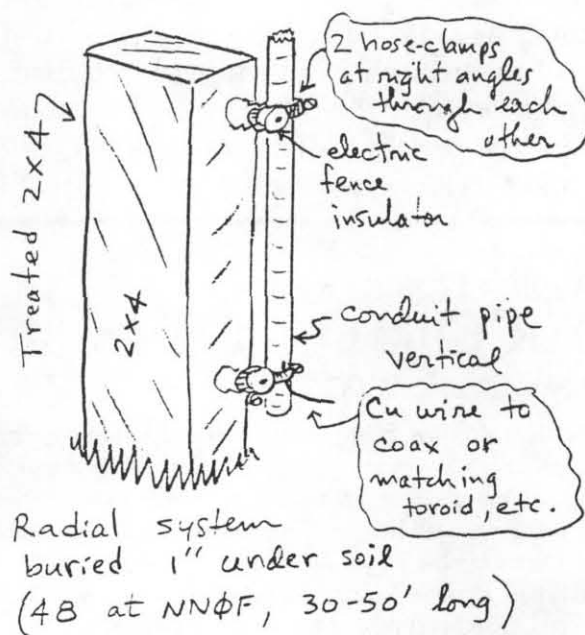

Figure 1
2. **The GROUND PLANE:** To estimate the ground system resistance loss I put up a quarter wave vertical over the radials. This consisted of two electrical conduit pipes of total length 19 feet high and one foot off the ground at the bottom. The larger pipe (3/4" dia) has slits cut with a hacksaw and the smaller (5/8") pipe fits inside it about 12". The pipes are held together with a steel hose-clamp. The pipes are held on a 3-foot high 2x4 post by electric fence insulators and two hose-clamps at right angles (see Fig. 1).